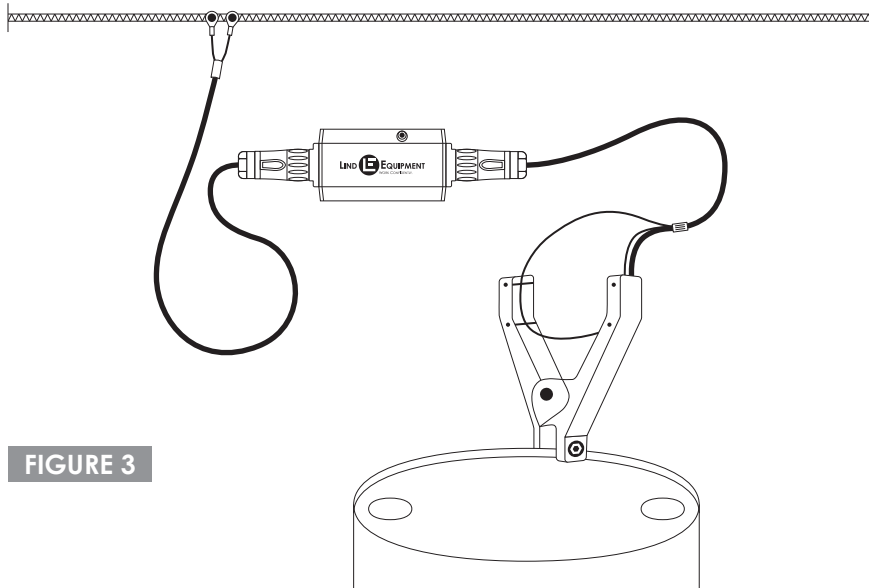

FIGURE 3
- + The other side of the assembly is now ready to be attached to the object that you wish to ground (FIGURE 3), **but first the device should be tested.**